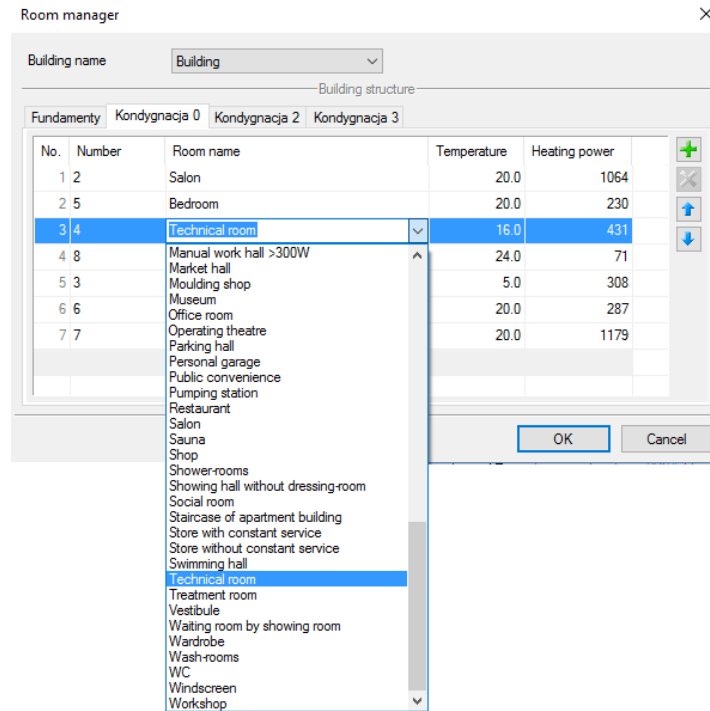

Fig. 54 The room manager window with the expanded list of rooms
- name of the room, which can be entered by himself or selected from the drop-down list of hints (Fig. 54),